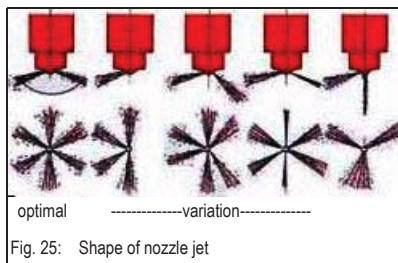

Fig. 25: Shape of nozzle jet
- The nozzle jet must create a shape on the paper as shown in fig. 25/left